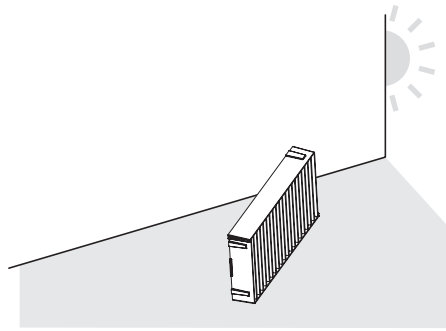

Fig. 2
- Pull out the air filter unit frame from the tabs of the projector body while slightly pressing around the center of the frame at the front side (with the lens) inward as described with the arrow, and pull out the frame at the opposite side from the tabs to remove the air filter unit. (Fig. 2)
2) Dry the air filter unit. (Fig. 2)